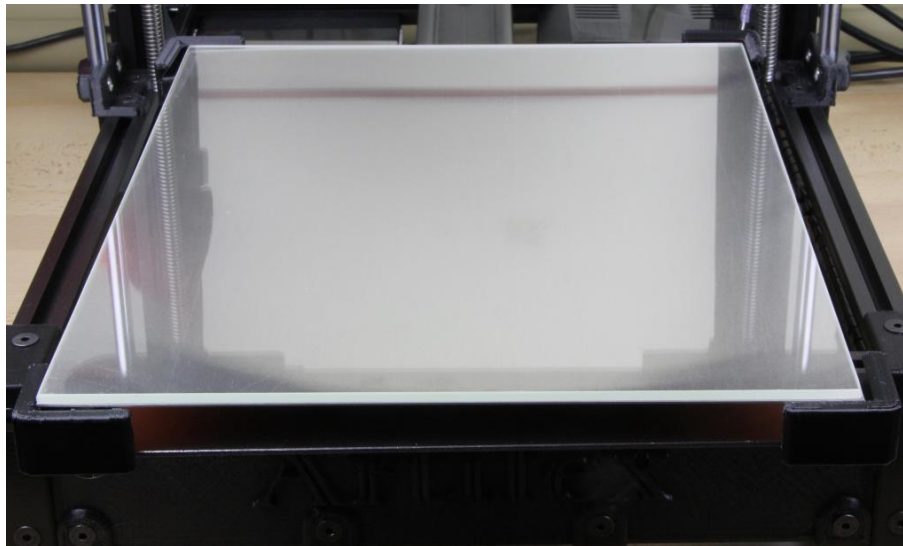

Figure 4.2: Releasing glass plate from the HBP
- (b) Slide printed HBP corners outward away from the bed to release the glass top from the build platform. (Figure 4.2)